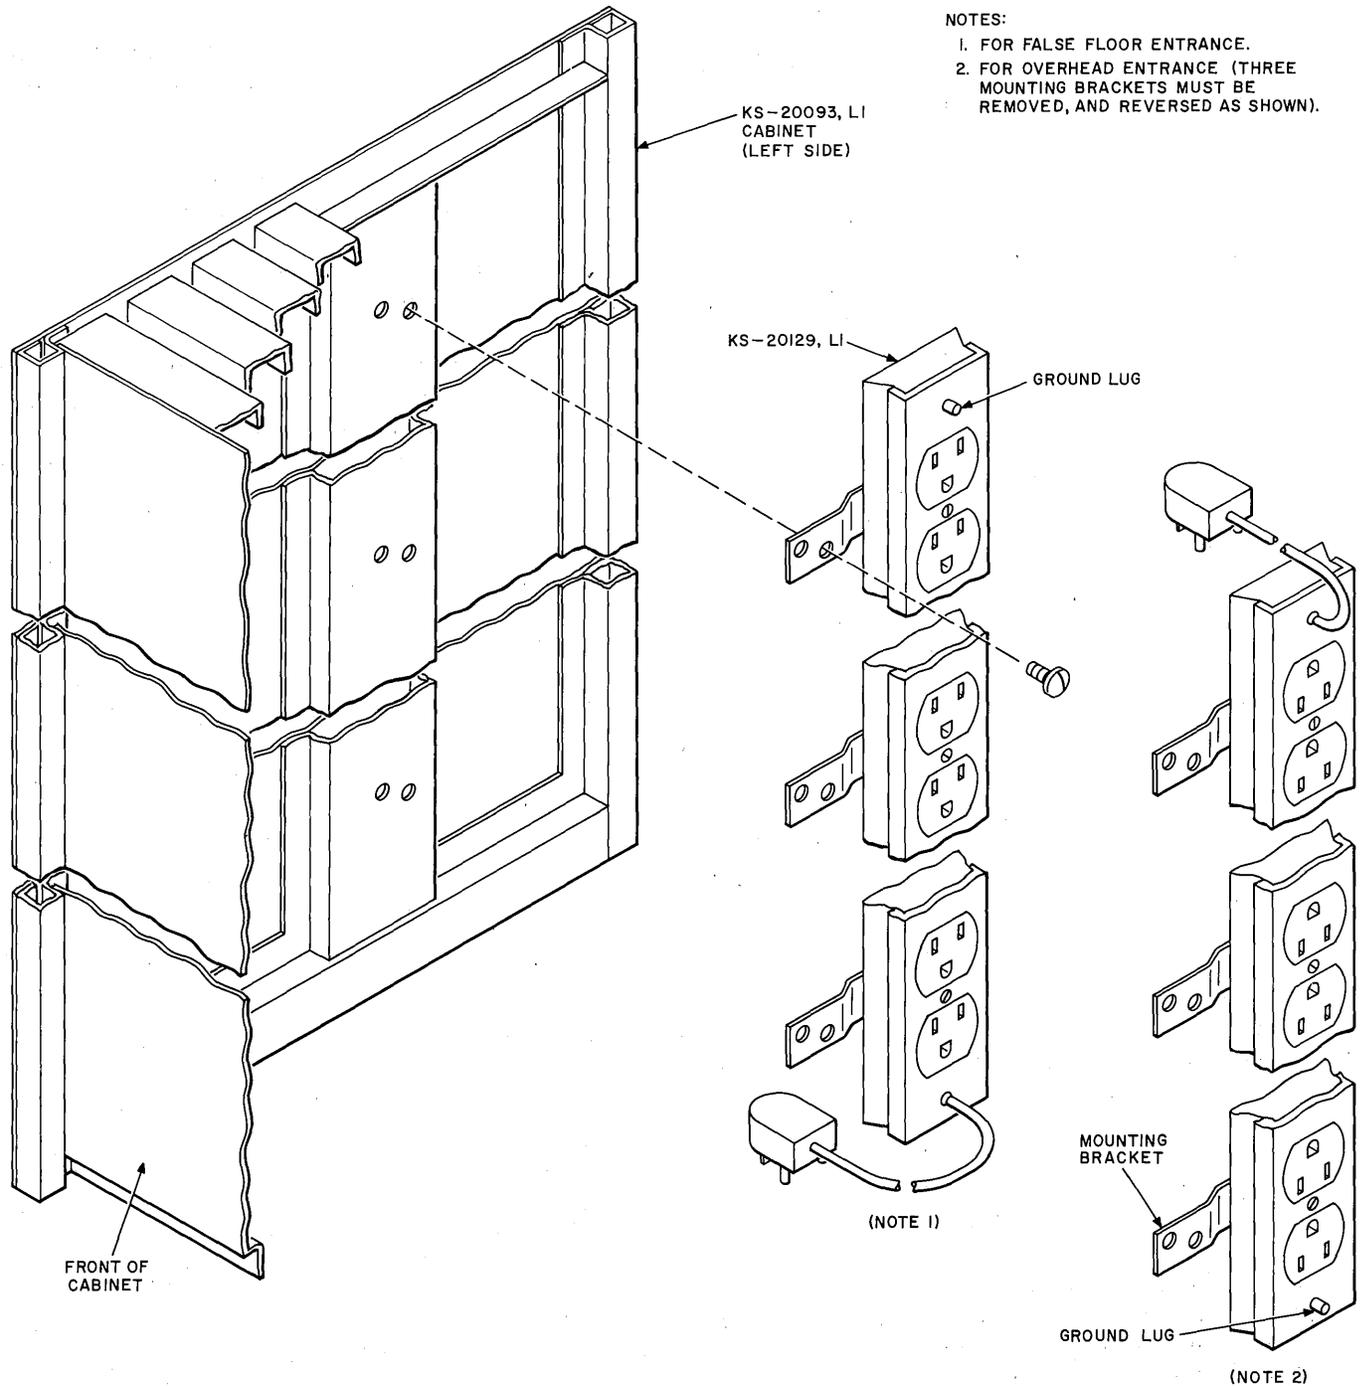

Fig. 8—Installation of KS-20129 L1 Power Strip on Left Side of Cabinet
(1) Install the KS-20129 L1 power strip as shown in Fig. 8. **Completely tighten all mounting screws.**
(2) Install the proper size KS-20130 L7-type adapter plate in the left front side of
- (e) Route the power cord of each DAS 820E2 through the cutouts of the cabinet and connect it to an outlet on the KS-20129 L1 power strip (Fig. 8). Connect the plug of the KS-20129 L1 power strip to the customer-provided ac receptacle.
- (1) Operate all power switches on the DASs 820E2 in the cabinet to the ON position.
- (2) Measure the voltage output of each data circuit in the cabinet as follows.